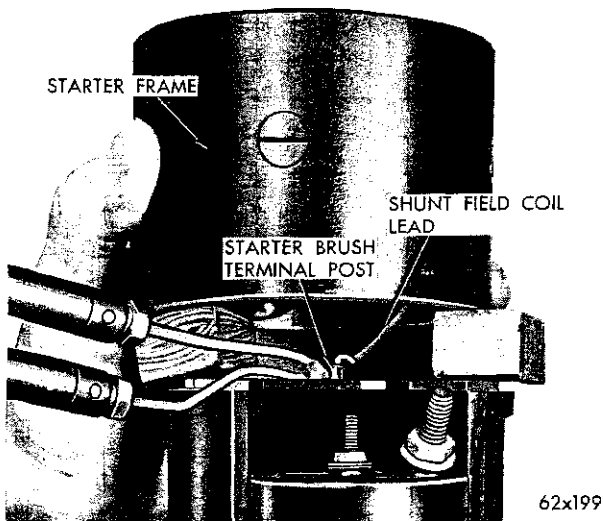

Fig. 21—Unsoldering Shunt Coil Lead Wire
- (5) Unsolder the shunt field coil lead from the starter brush terminal (Fig. 21).